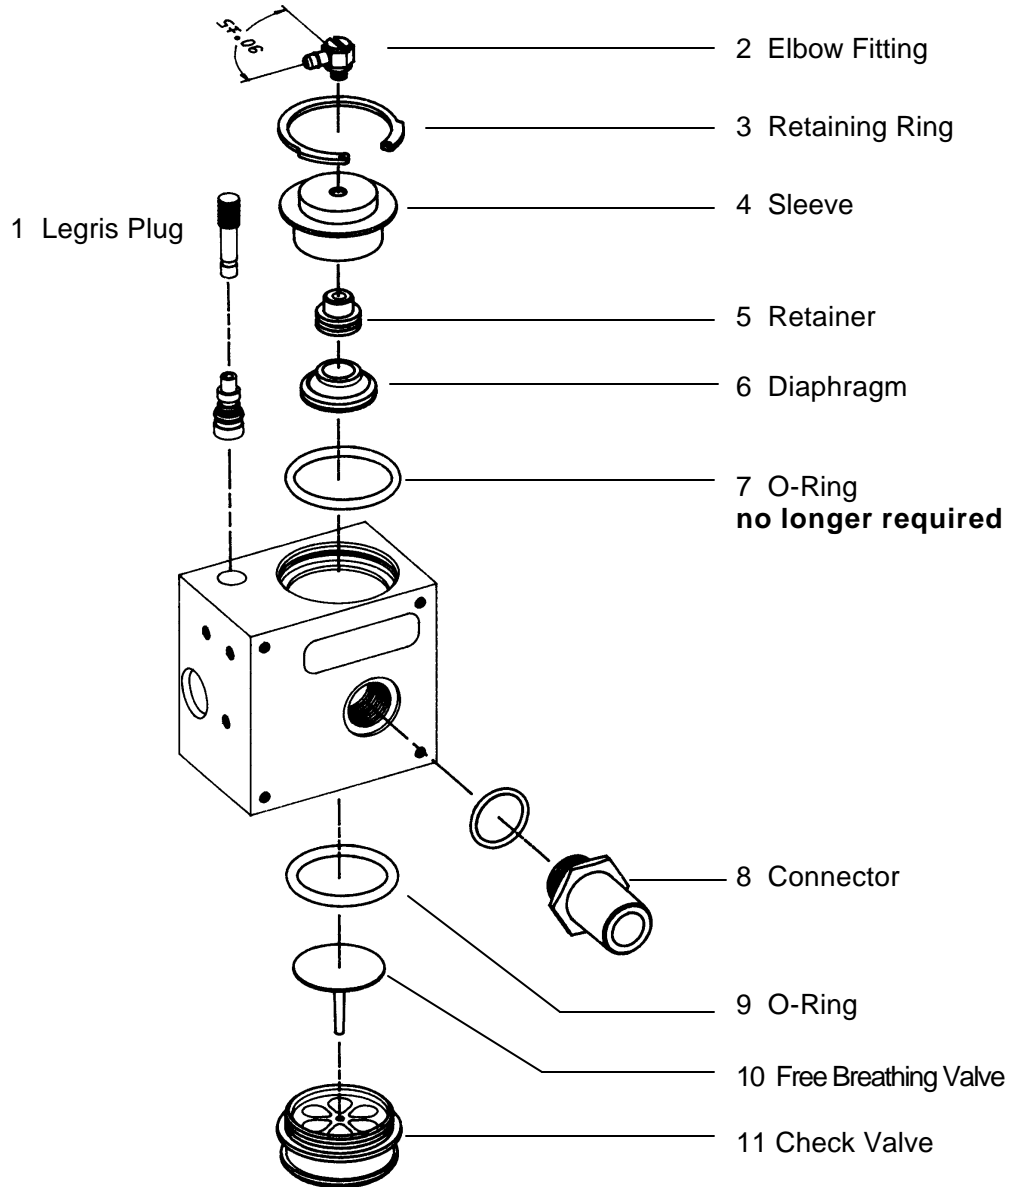

Figure 2 Pneumatic Manifold Assembly
- a. Refer to Figure 2, pneumatic manifold assembly, for part identification.
- b. Use retaining ring pliers to remove the retaining ring (Fig. 2, Item 3).
- c. Separate the elbow fitting (Fig. 2 Item 2) from the retainer (Fig. 2 Item 5).
- d. Separate the diaphragm (Fig. 2, Item 6) from the brass retainer (Fig. 2, Item 5). Place a new diaphragm on the retainer.
- e. Replace the o-ring (Fig. 2, Item 7). Lubricate the O-ring with Krytox.
- c. Carefully remove the check valve body by turning it counterclockwise with a needle nose pliers (Fig. 2, Item 11).
- d. Remove and replace the free breathing valve (Fig. 2, Item 10). Cut the tail of the new valve flush with the bottom of the check valve seat.
- f. Replace the o-ring (Fig. 2, Item 9).